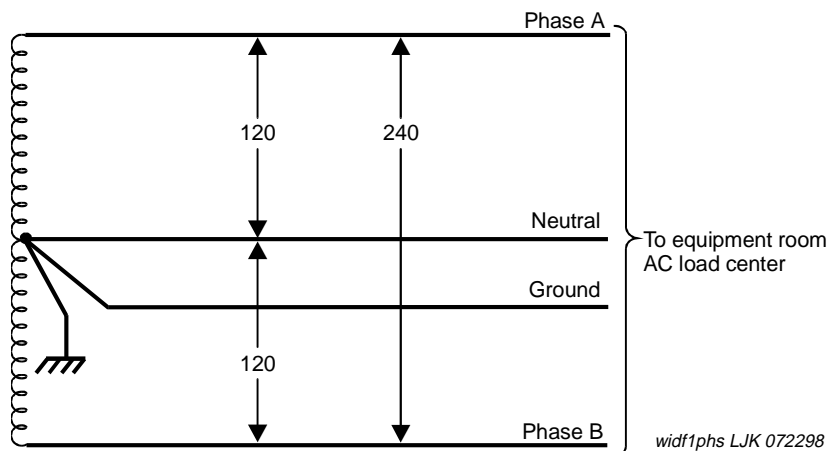

Figure 17. Single-Phase, 120/240 VAC, 60 Hz Source
- Single-phase, 4-wire, 120/240 VAC. See Figure 17.